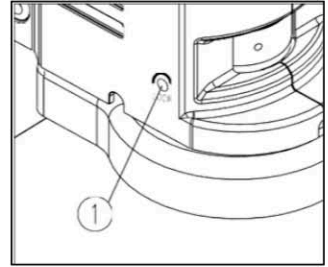

Fig.9
- Rotate the zoom adjustment ring (1) to the maximum magnification.
- Observe the output image, if it is not clear, rotate the focusing knob (2) to make it clear
- Rotate zoom adjustment ring to the minimum magnification. Observe the output image until it is clear. (See Fig.9)
If use a fixed magnification for long term or use with shake, tighten and fix the magnification lock-screw (1) with a M4 inner hexagon spanner (side length 3mm). (See Fig. 9)